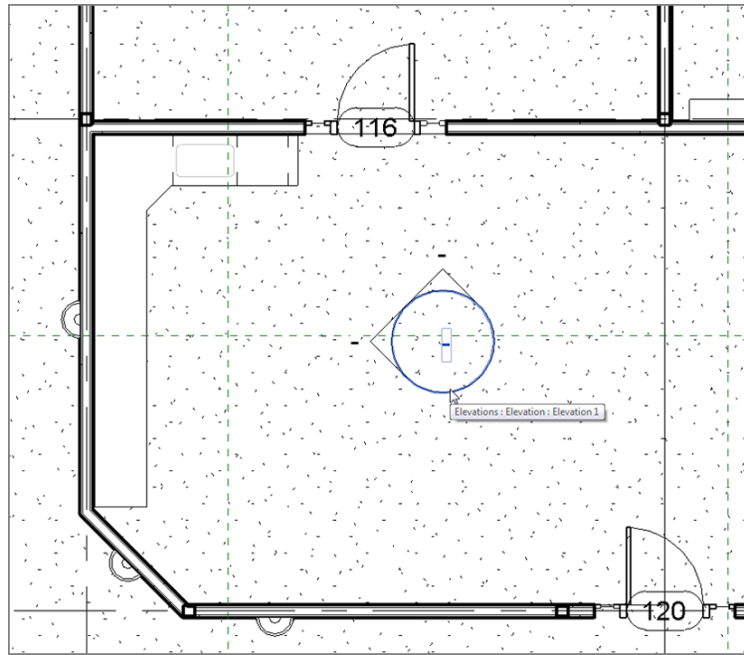

FIGURE 9.55: Adding elevations to aid in design
3. Select the elevation marker, and turn on the elevation looking west (see Figure 9.55).